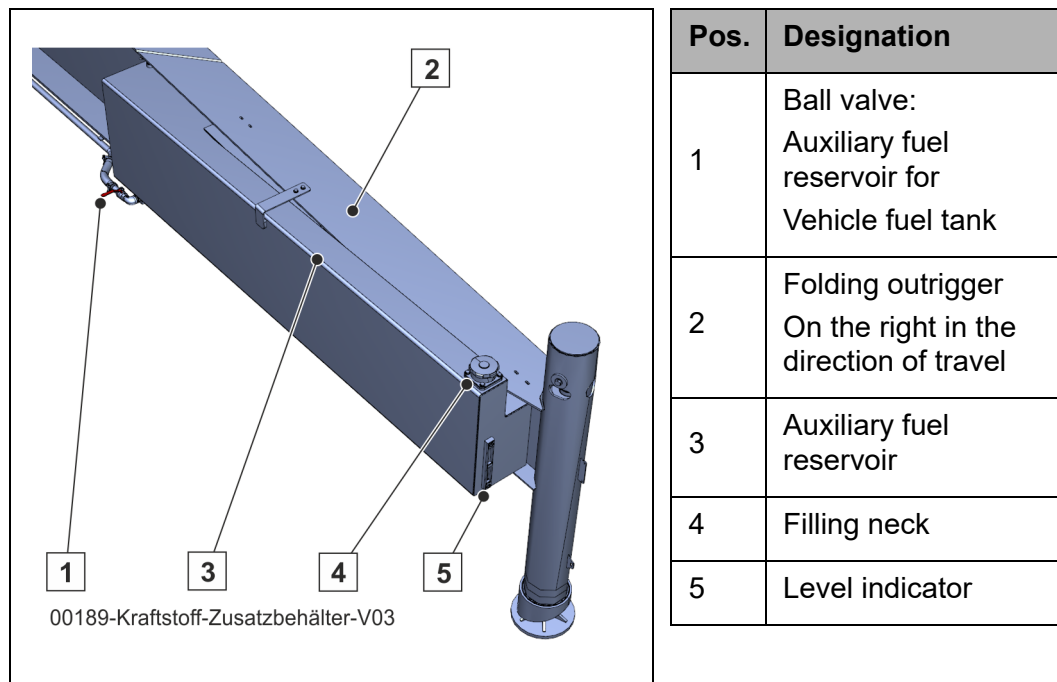

Fig. 47 Example: Auxiliary fuel reservoir (3)
2. Check the fuel supply of the optional auxiliary fuel reservoir on the level indicator e.g. (5) (**Fig. 47**).
The connection between the auxiliary fuel reservoir and the vehicle fuel tank must be permanently separated by the ball valve (1) (**Fig. 47**).